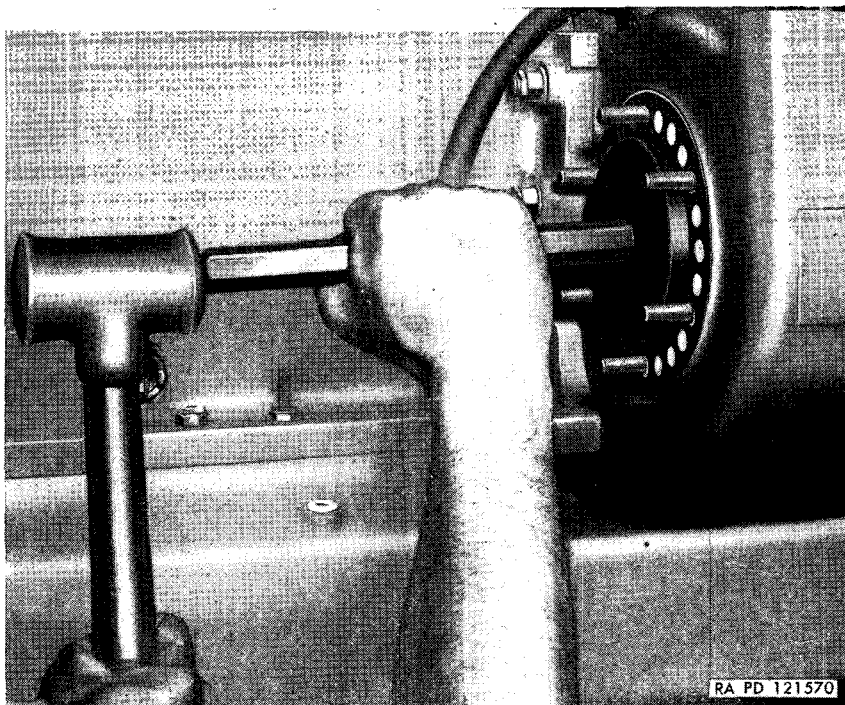

Figure 179. Replacing starter-drive-gear-hub oil seal with replacer 41-R-2388-715.
- (1) *Coordination with ordnance maintenance unit.* Replacement of starter-drive-gear-hub oil seal is normally an ordnance maintenance operation, but may be performed in an emergency by the using organization, provided authority for performing this replacement is obtained from the appropriate commander. Tools required for the operation which are not carried in the using organization may be obtained from the supporting ordnance maintenance unit.
- (2) *Replace oil seal* (fig. 179). If evidence of oil leakage into starter has been found, oil seal may be at fault. To remove oil seal, remove starter (*a* above), then remove oil seal from within accessory case. Install new oil seal using replacer 41-R-2388-715. Record replacement on DA AGO Form No. 478.